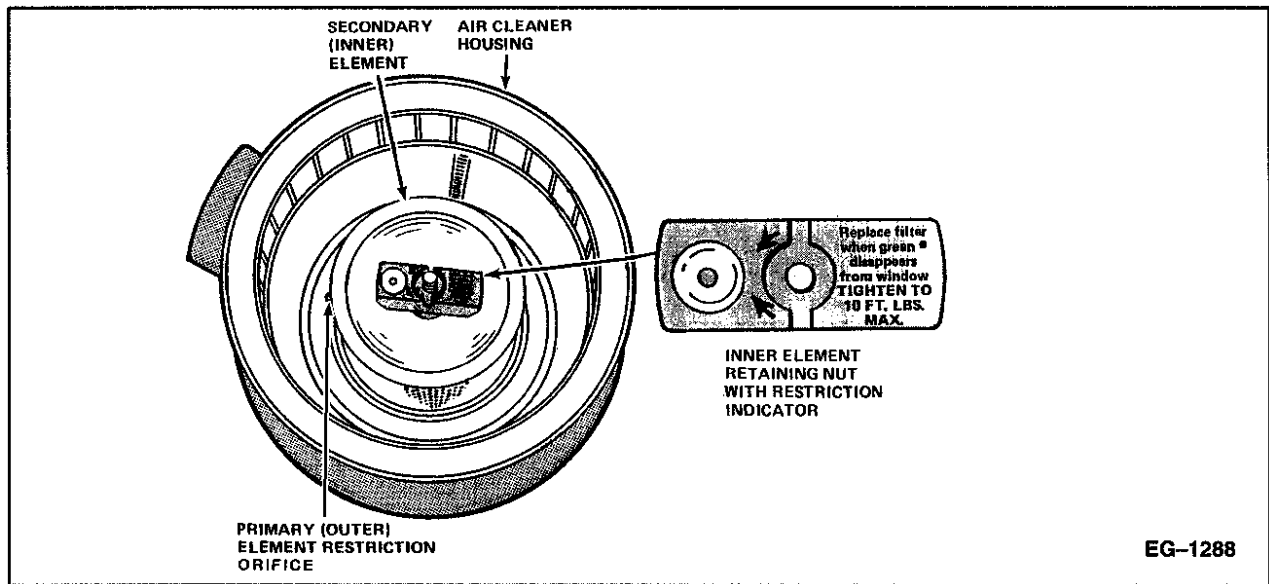

Figure 59 Dual Element Air Cleaner Retaining Nut Indicator
2. Dual Element Air Cleaner Retaining Nut Indicator (See Figure 59, page 109).